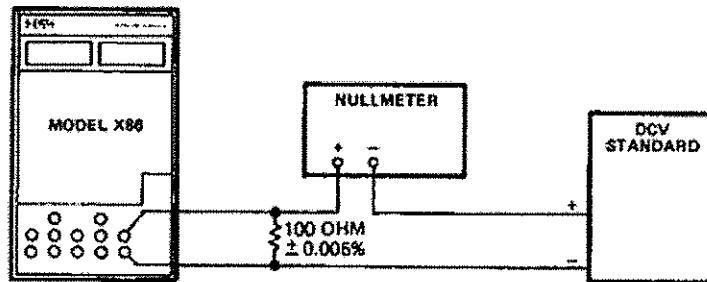

Figure 6-5: Current Output Measurement
6.3.3 mA Output Adjustment: Connect the Model X86 Portable Calibrator, the dc voltage standard, the 100-ohm precision resistor and the nullmeter as shown in Figure 6-5.